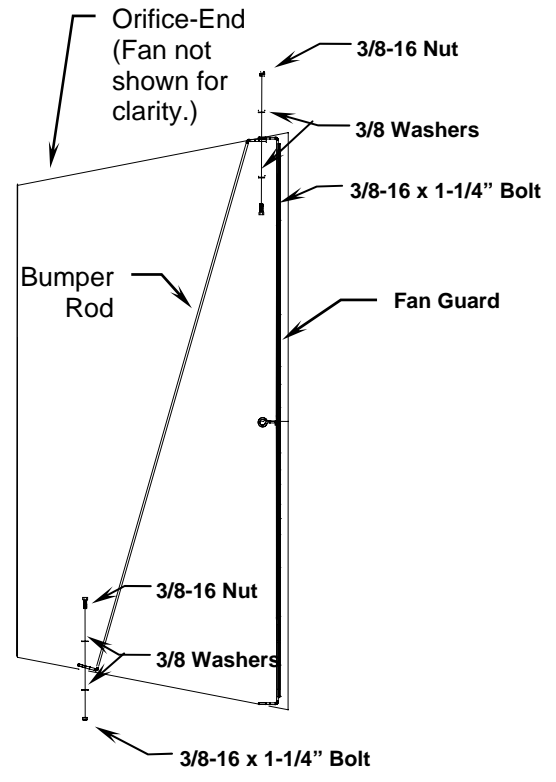

Figure 10 – Door Stop for 52" Fan
- 17. For the 36" Fan, Skip to Step 20. For the 52" Fan, install the Bumper Rod as shown by attaching with 3/8" hardware as shown in Figure 10.
- 18. For the 52" Fan, install the Outside Fan Guard using four 3/8x1x20 bolts and nuts. See the note below for the 48" Fan Guard. See Figures 10 and 11. Skip to Step 21.